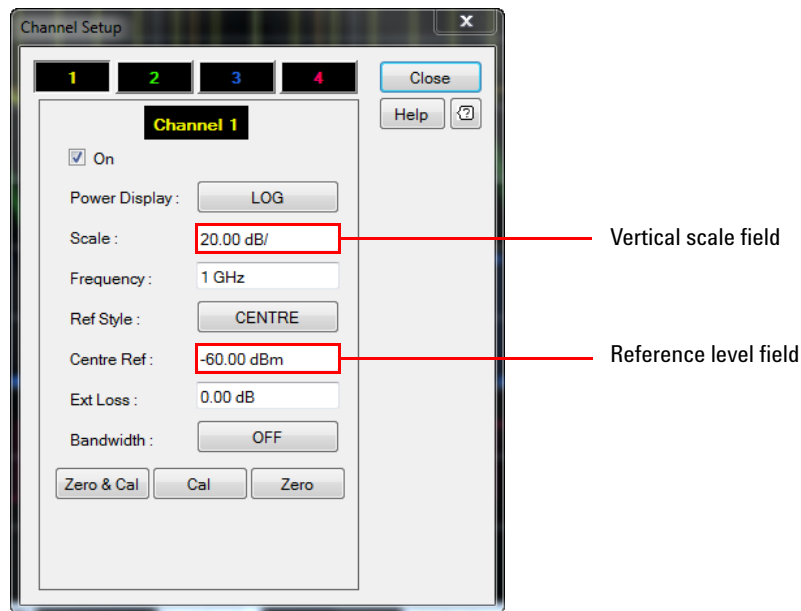

Figure 2-9 Vertical scale and reference level field for the RF input channel
- 2 For RF input channels, select the vertical scale field on the Channel Setup dialog to adjust the vertical scale as shown in Figure 2-9.
- 3 The vertical offset in the RF input channel is referred to as top reference level, centre reference level, or bottom reference level depending on the desired reference style. Select the reference level field on the Channel Setup dialog to adjust the reference level as shown in Figure 2-9.